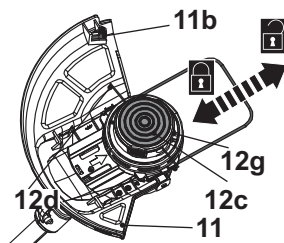

Fig. 23
1. Turn trimmer head (12) upside down.
2. Press the release push button (12g) while pulling on the trimming lines (12d). The trimming spool (12c) will release the trimming lines (Fig. 23).